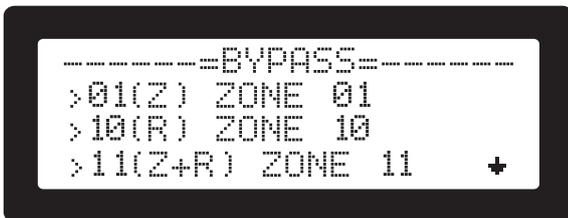

Figure 34. Bypassed zones & relays information screen
- Press **[BYP]** button: A list with only bypassed zones is displayed. The list is scrollable with the arrow keys (Figure 34). In the list view each zone bypass is shown with either **|Z|** **|R|** or **|Z+R|** in front of the zone description (Z stands for Zone, R for Relay).